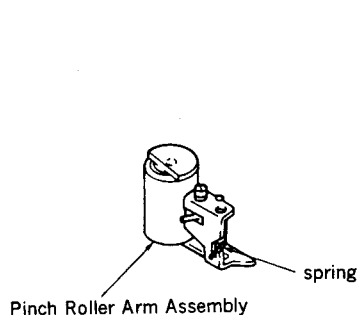

Fig. 1
- (1) Open the MB-19 Board referring to Section 2-5-5.
- (2) Remove the Cassette-up Compartment Assembly referring to Section 2-3.
- (3) Remove the stopper washer. (fig. 1)
- (1) Replace the Pinch Roller Arm Assembly with a new one.
- (2) Install the spring and hook the ends of the spring to the Pinch Roller Arm Assembly. (fig. 1)